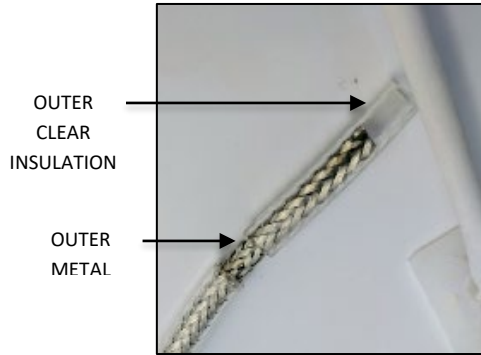
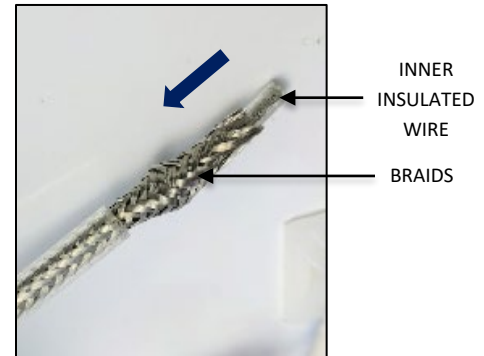

FIG. 38
FIG. 39
1. Strip off 1.00" of outer clear insulation exposing the outer metal braiding as shown in FIG. 38 below. **Be careful not to cut or damage the outer metal braiding.** Gently push braiding down to loosen the individual braids exposing the inner insulated wire as shown in FIG. 39 below.